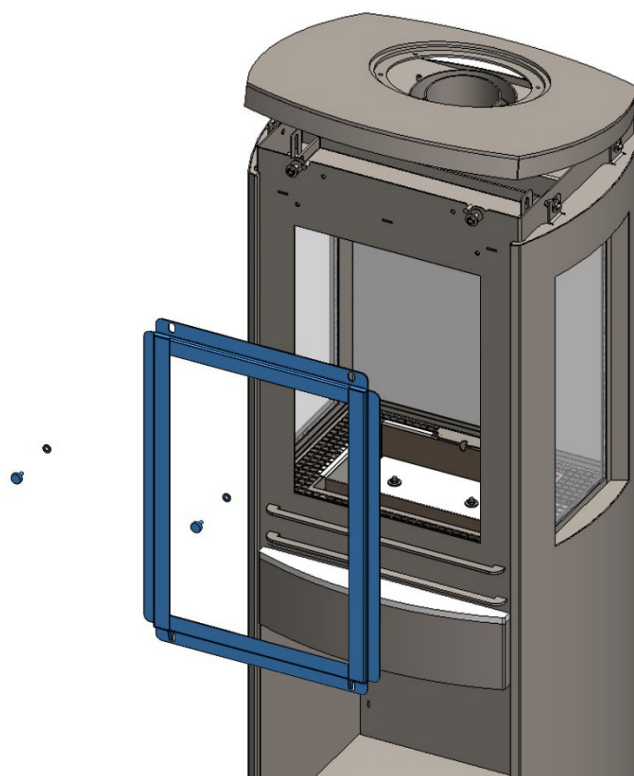

Fig.22 Front glass removal
STEP 3 – Remove the glass frame by turning the thumbscrews anticlockwise. Place the thumbscrews and washers aside and carefully lift the glass frame up and away from the appliance (see Fig.22). **IMPORTANT:** Use two hands to lift the glass frame and glass as the glass may come loose from the frame.